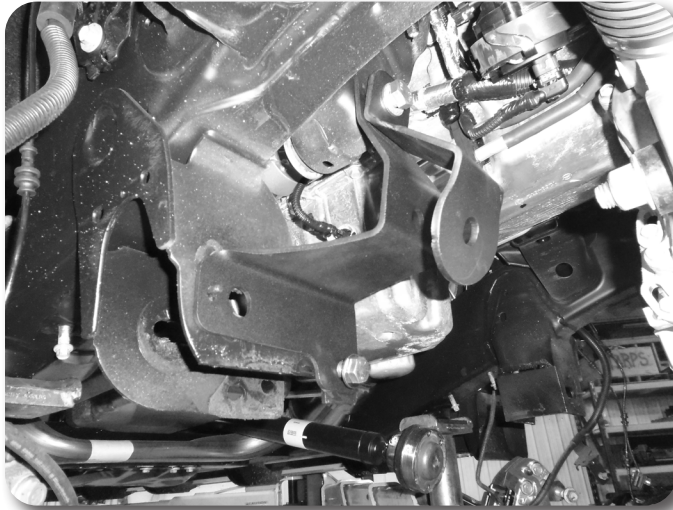

Figure 27
37. Install the new passenger's side differential bracket and brace to the original mounting location with the new 14mm bolt, 14mm washer, and factory nut Fig. 27. Snug up hardware, but do not tighten. The differential brace will mount to the alignment pin and into the slot from the factory rear cross member.